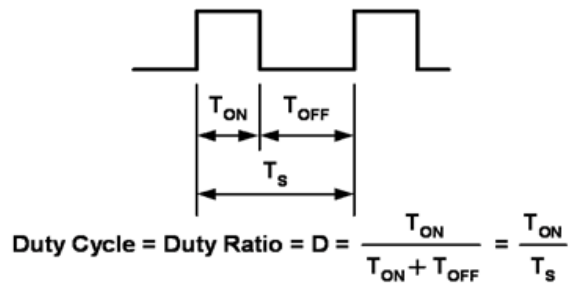

Figure 14.
The method of pulsing the current through the LEDs is known as Pulse Width Modulation (PWM) and has become the preferred method of changing the light level. LEDs being a silicon device, turn on and off rapidly in response to the current through them being turned on and off. The switching time is in the order of 100 nanoseconds, this equates to a maximum frequency of 10 Mhz, and applications will typically operate from a 100 Hz to 100 kHz. Below 100 Hz the human eye will detect a flicker from the light emitted from the LEDs. Between 500 Hz and 20 kHz the circuit may generate audible sound. Dimming is achieved by turning the LEDs on and off for a portion of a single cycle. This on/off cycle is called the Duty cycle (D) and is expressed by the amount of time the LEDs are on (Ton) divided by the total time of an on/off cycle (Ts) (Figure 14).